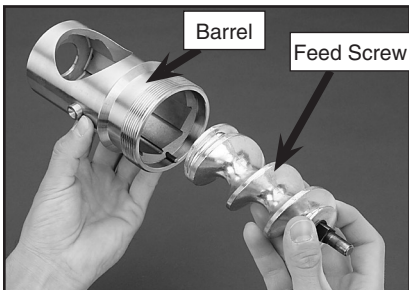

Figure 2. Feed screw installation
4. After cleaning, assemble the grinder head by inserting the feed screw into the barrel with the vertical slot on the shaft projecting through the back of the barrel (Figure 2).